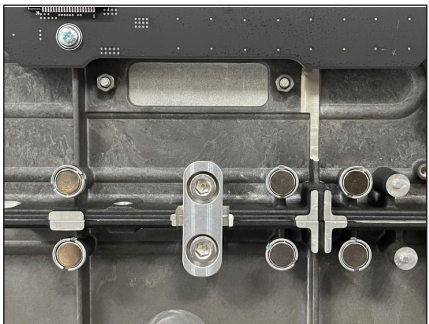
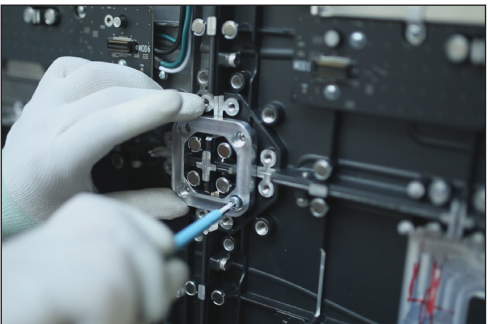
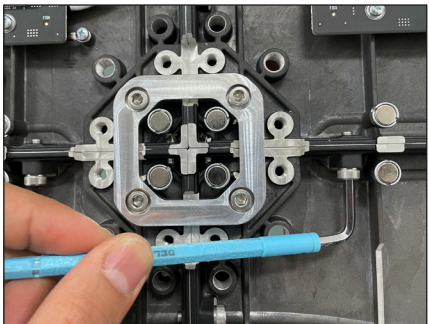
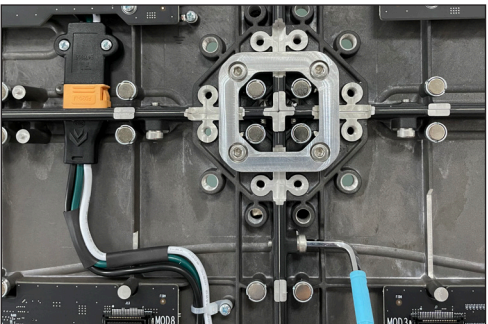

Figure 20: Assemble Panels
Figure 21: Attach Flattening Plate
Figure 22: X-axis Adjustment
Figure 23: Y-axis Adjustment
- 3. Use a 5 mm Allen wrench and socket-head stitch screws to attach the panels together, but do not tighten the screws. Refer to **Figure 20**.
- 4. Use a 5 mm Allen wrench to attach the flattening plate to the front of the panels, and ensure the panel faces are completely flush. Refer to **Figure 21**, **Figure 22**, and **Figure 23**.
- d. Check flatness or alignment at all joints. Refer to **Figure 20**, **Figure 21**, **Figure 22**, **Figure 23**, and **Figure 26**.